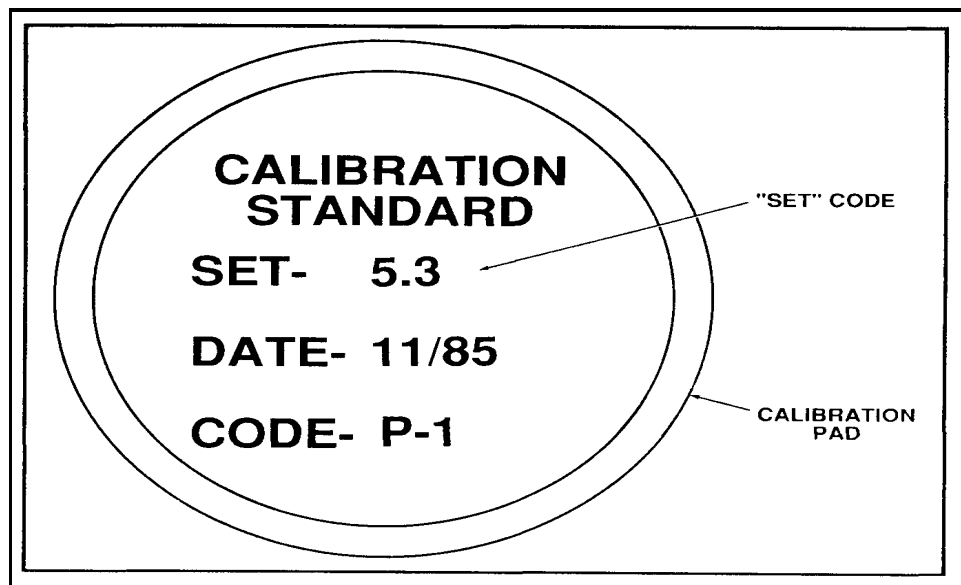

Figure E-3. Calibration pad and calibration set code
- Remove the calibration pad stored in the kit. Always handle the pad with tweezers. The pad is covered with a clear plastic shielding and has a coding standard written on one side. Note the “SET” code in the center of the pad, this is the calibration setting you will use for calibrating. The sample pad in Figure E-3, page E-3, has a calibration set code of “5.3.” Ensure that the calibration and fluorescing standard are a matched set. The fluorescing standard located under the hinged light shield has an alphanumeric code, and should match the code on the calibration standard. Although the “SET” numbers on the standards may or may not be the same, the code for the standards must be the same. You should label or mark the detector with the calibration/fluorescing code to ensure the proper pad is used during calibration. Matched standard sets can be ordered under NSN 6630-01-245-5989.